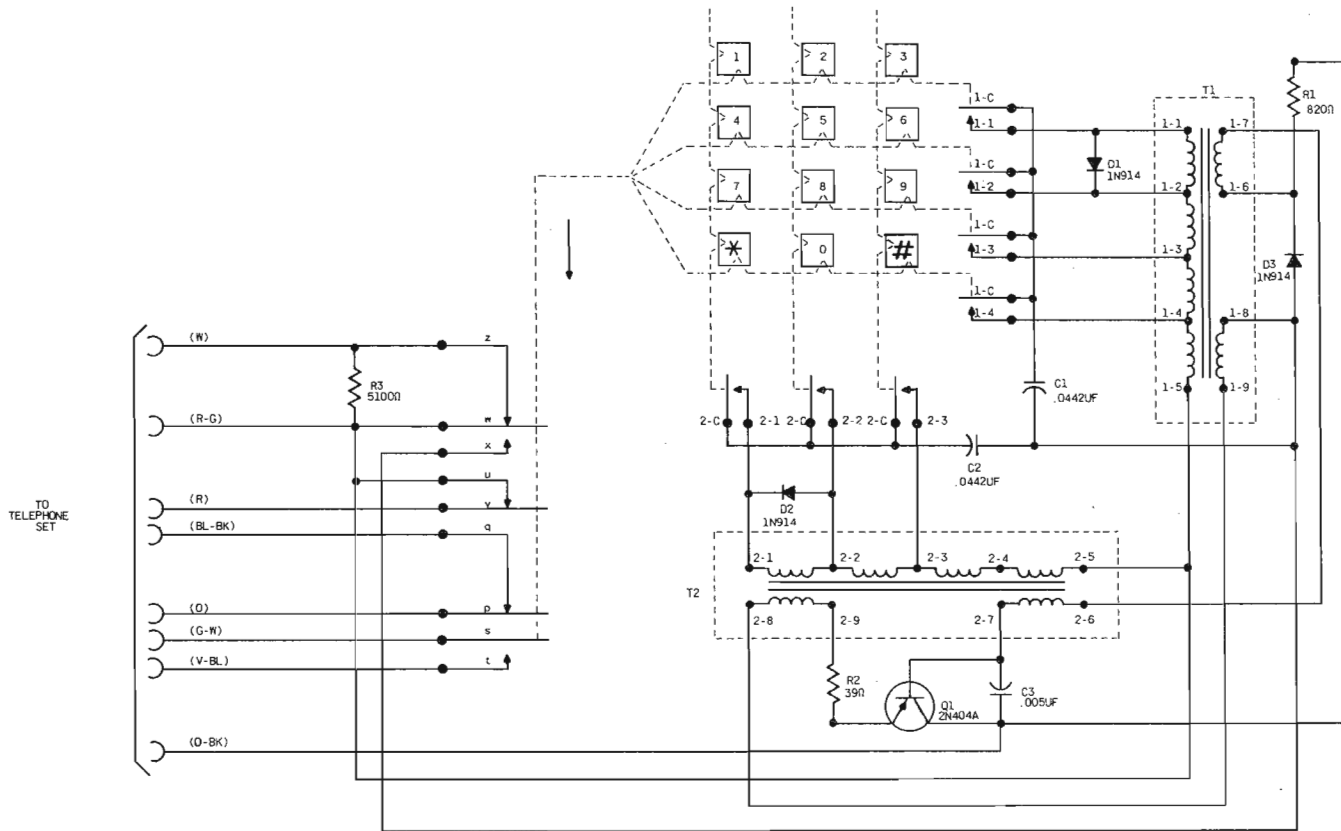

Fig. 7 - NE-35Q3D Dial Schematic (MD)
- Fig. 7 – NE-35Q3D Dial Schematic (MD)